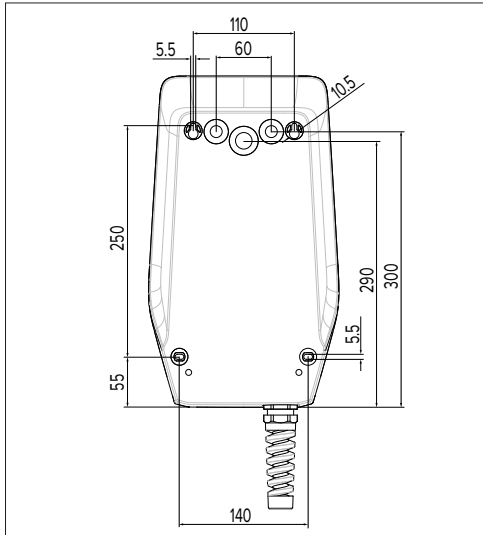

Fig.: 6. Drilling dimensions [mm]
"Fig.: 6. Drilling dimensions [mm]". Cable glands are located on the back, bottom and top.
- ▶ Mark the boreholes using the drilling template provided or as shown in Fig. "Fig.: 6. Drilling dimensions [mm]". Ensure that the alignment is horizontal.